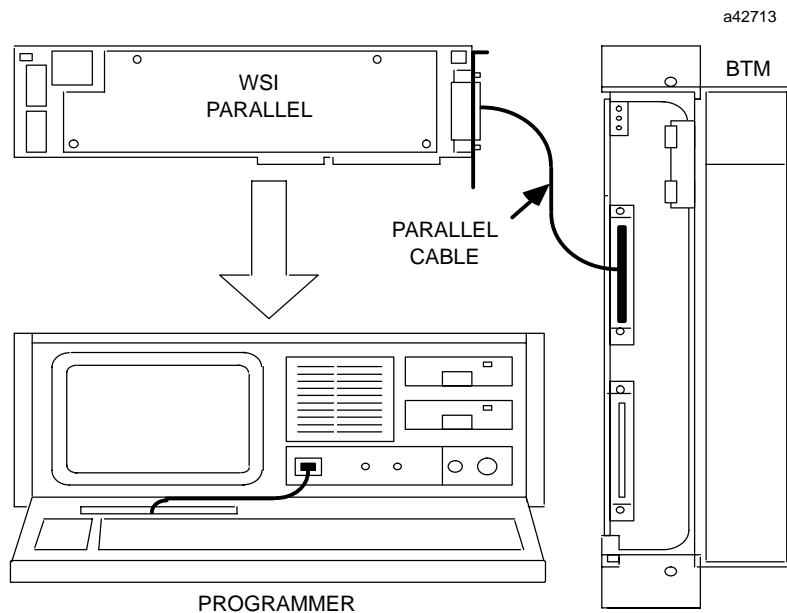

Figure 1. Interconnection of IC640 Computer, Parallel Work Station Interface and Bus Transmitter Module
- Install in an IC640 computer as shown in figures 1 and 2.
The parallel attachment (IC697 PLC only) is to the top connector on the Bus Transmitter Module through cable IC600WD005 or equivalent as shown in figures 1 and 3.